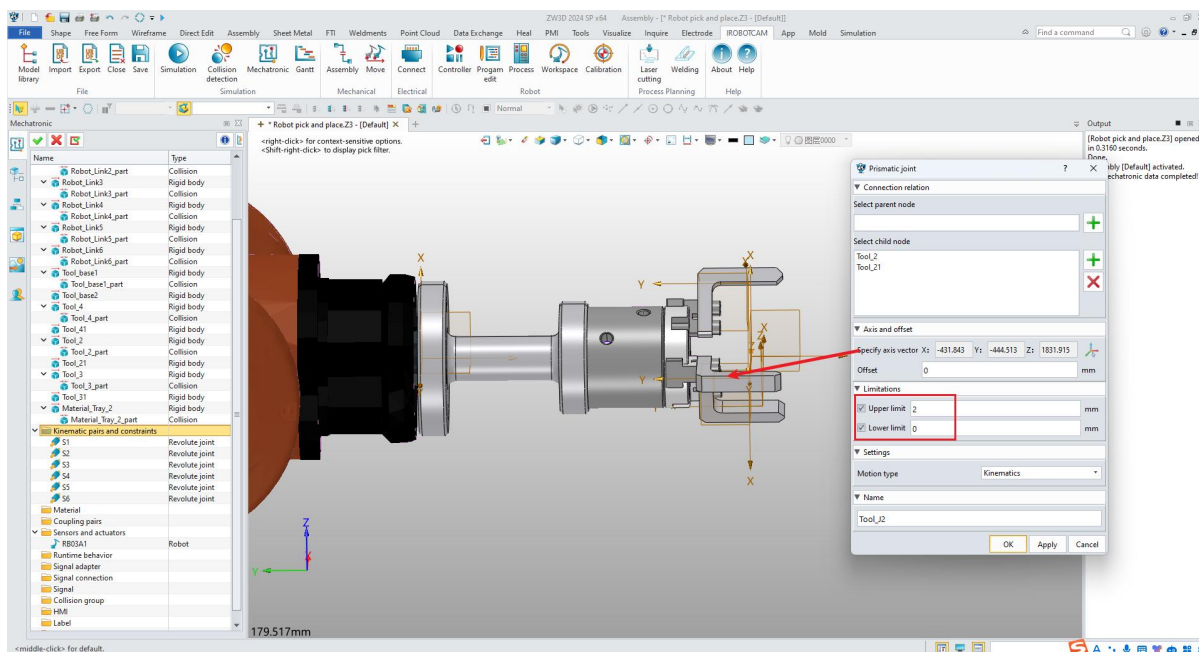

Figure 10-3: W1 Prismatic Joint
- ✧ Define child nodes, select the following rigid bodies:(Figure 10-3)